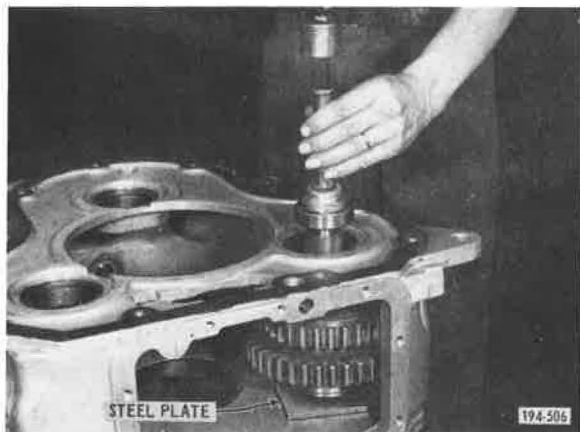

Figure 368. Installing Bearing
3. Place a steel plate under front end of each countershaft, and then install rear bearing using a driver that applies force to the bearing inner race only. See Figure 368.